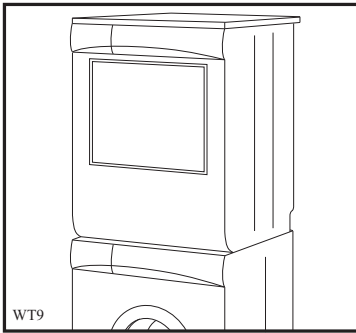

Fig 5
- Models without plinth (fig 5 and 6);